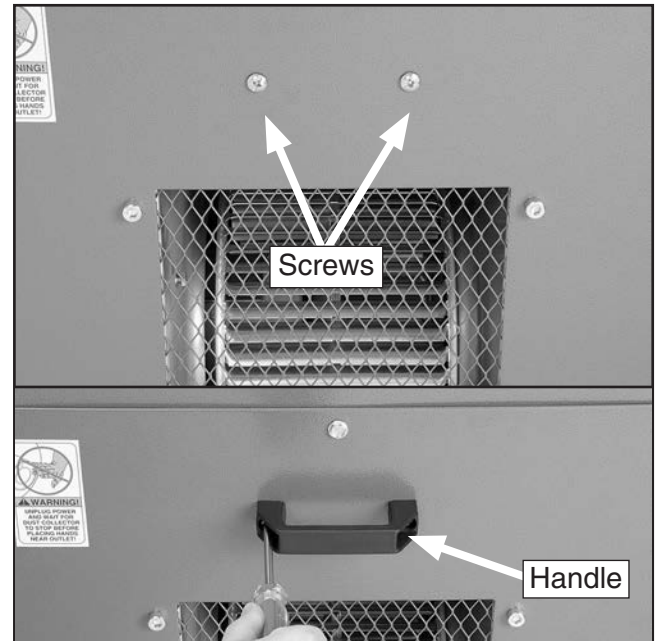

Figure 12. Installing outlet plate handle.
10. Remove (2) screws (see **Figure 12, top**) on outlet plate and use these to mount the handle to the plate (**Figure 12, bottom**).